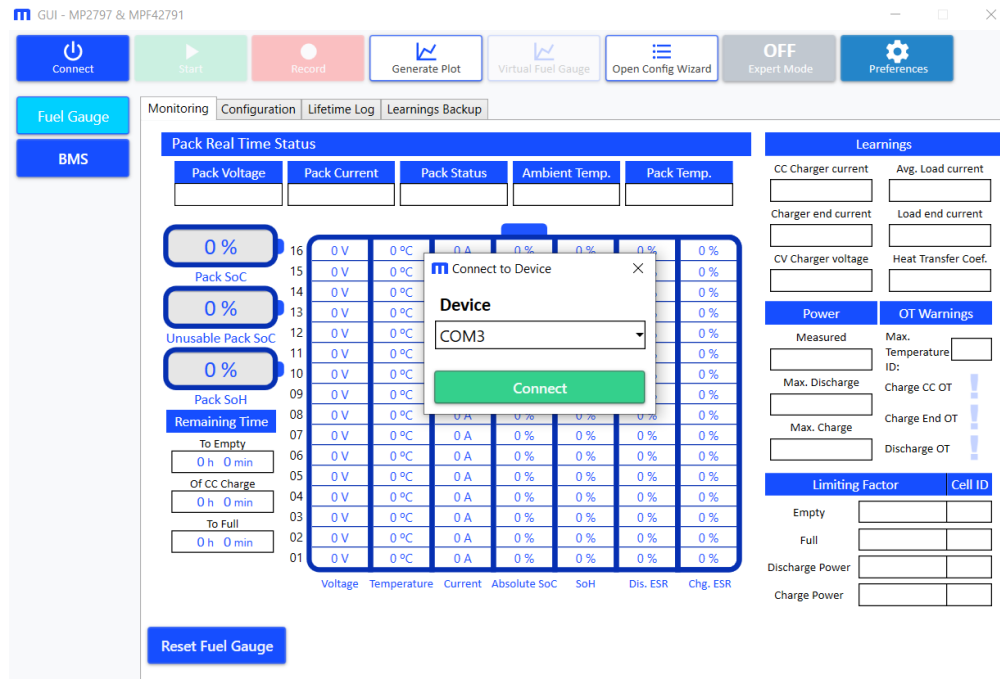

Figure 32: BMUxxS-P100-x Connection to the PC
- If the PC correctly identified the COM port, the device should be listed in the drop-down menu (see Figure 32).